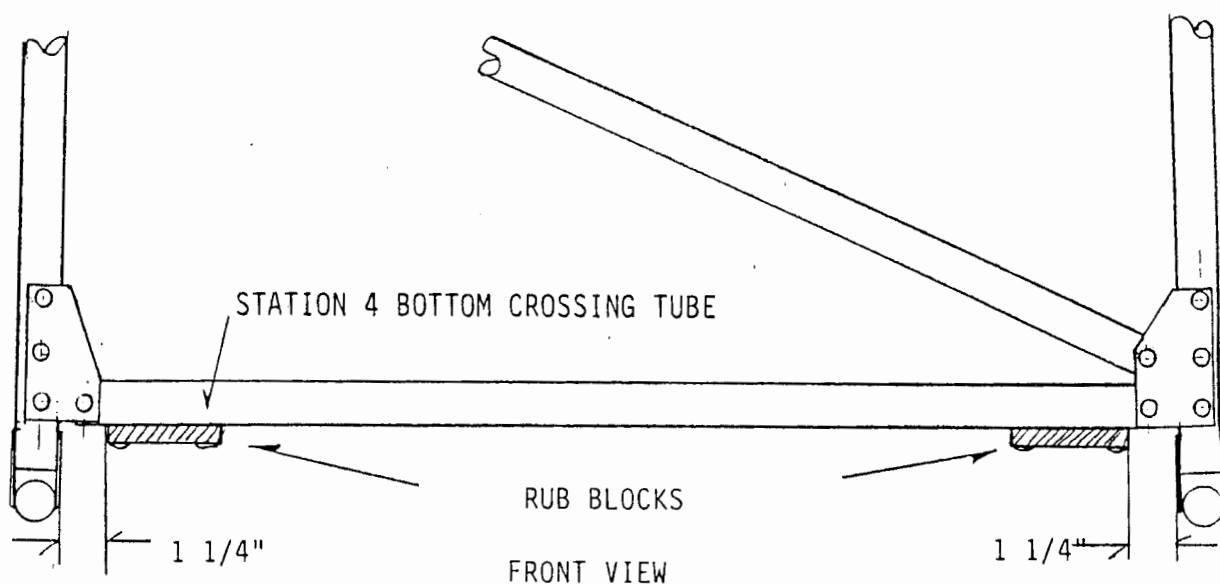

FIGURE 023-07
7. Locate and rivet the cable rub blocks as in Fig 023-07.